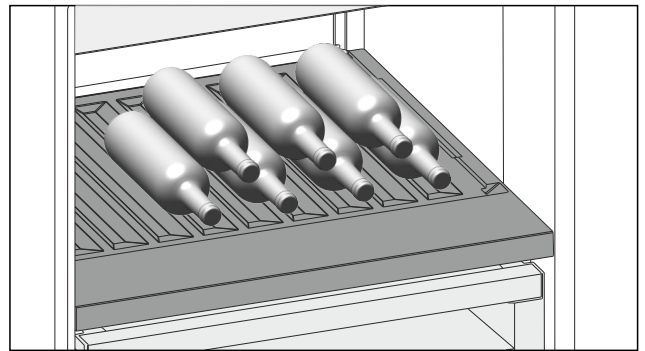

Fig. 117
- Place bottles in the back row with their bases against the back wall. (see Fig. 117)